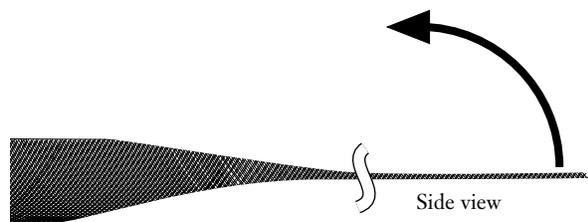

Figure 6
4.7 Pulling the open end of the mesh tight over the corrugated tubing, press the end of the mesh flat. Fold over the flattened end of the mesh to make a loop (Figure 6).